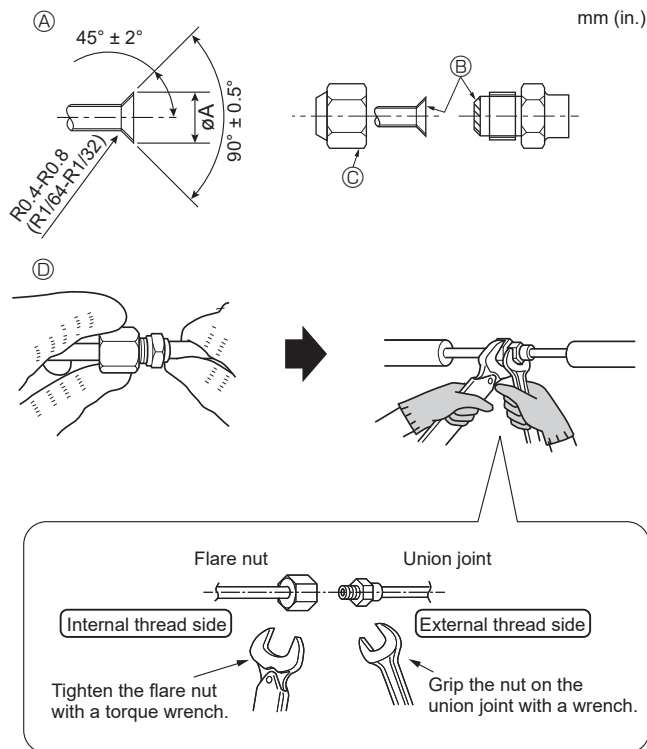

Fig. 4-1
4.2. Connecting pipes (Fig. 4-1)
- Flare the ends of the refrigerant pipes. (A)
- Apply refrigerating machine oil over the entire flare seat surface. (B)